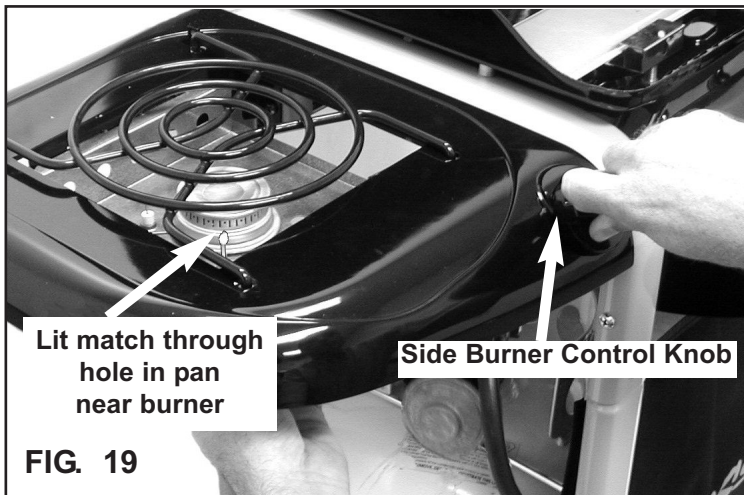

FIG. 19
4. Hold Lit Match near Burner through hole in Side Burner Pan from underneath. (FIG. 19)